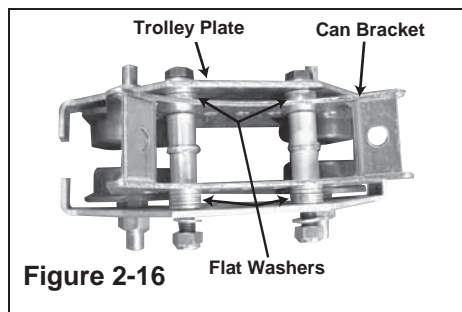

Figure 2-16
The I-beam trolley is adjustable to fit different I-beam widths by placing an equal number of flat washers on both sides between the trolley plate and the can bracket (See Figure 2-16 below).
- Step 1. Slide two bolts with washers into the bottom holes on the trolley plate. (See Figure 2-16)